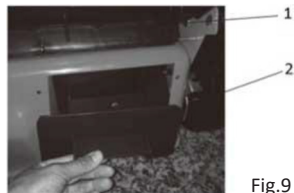

Fig.9
- Remove the grass catcher (Fig. 9 - item 1).
- Place the grass mulching plug in the discharge chute (Fig. 9 - item 2) and make sure it is correctly positioned.